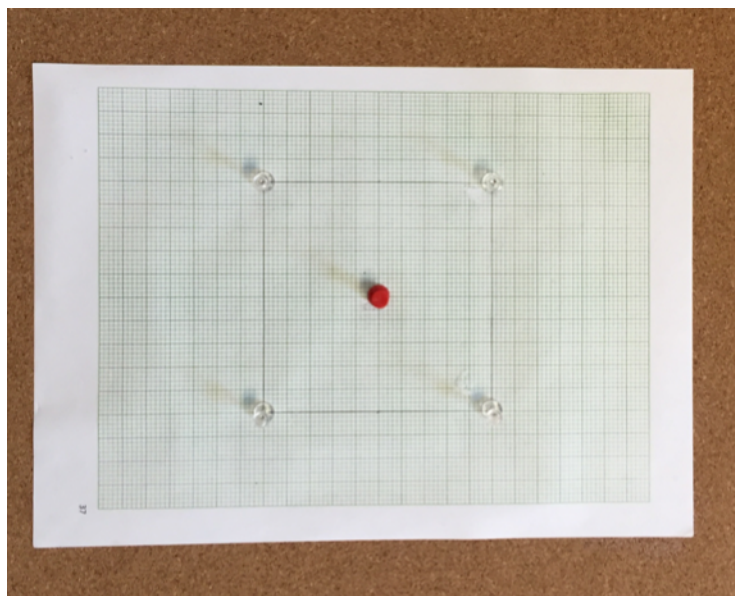

Fig. 13: In-house built phantom for light radiation field coincidence test
2. The phantom (Fig 13) was built using a graph paper glued on the cork board, four board pins (BBs) at the corners of 10 x 10 cm square and a board pin at the center. The phantom was setup at 100 cm SSD on the table and aligned with the 10 x 10 light field set according to machine parameters.